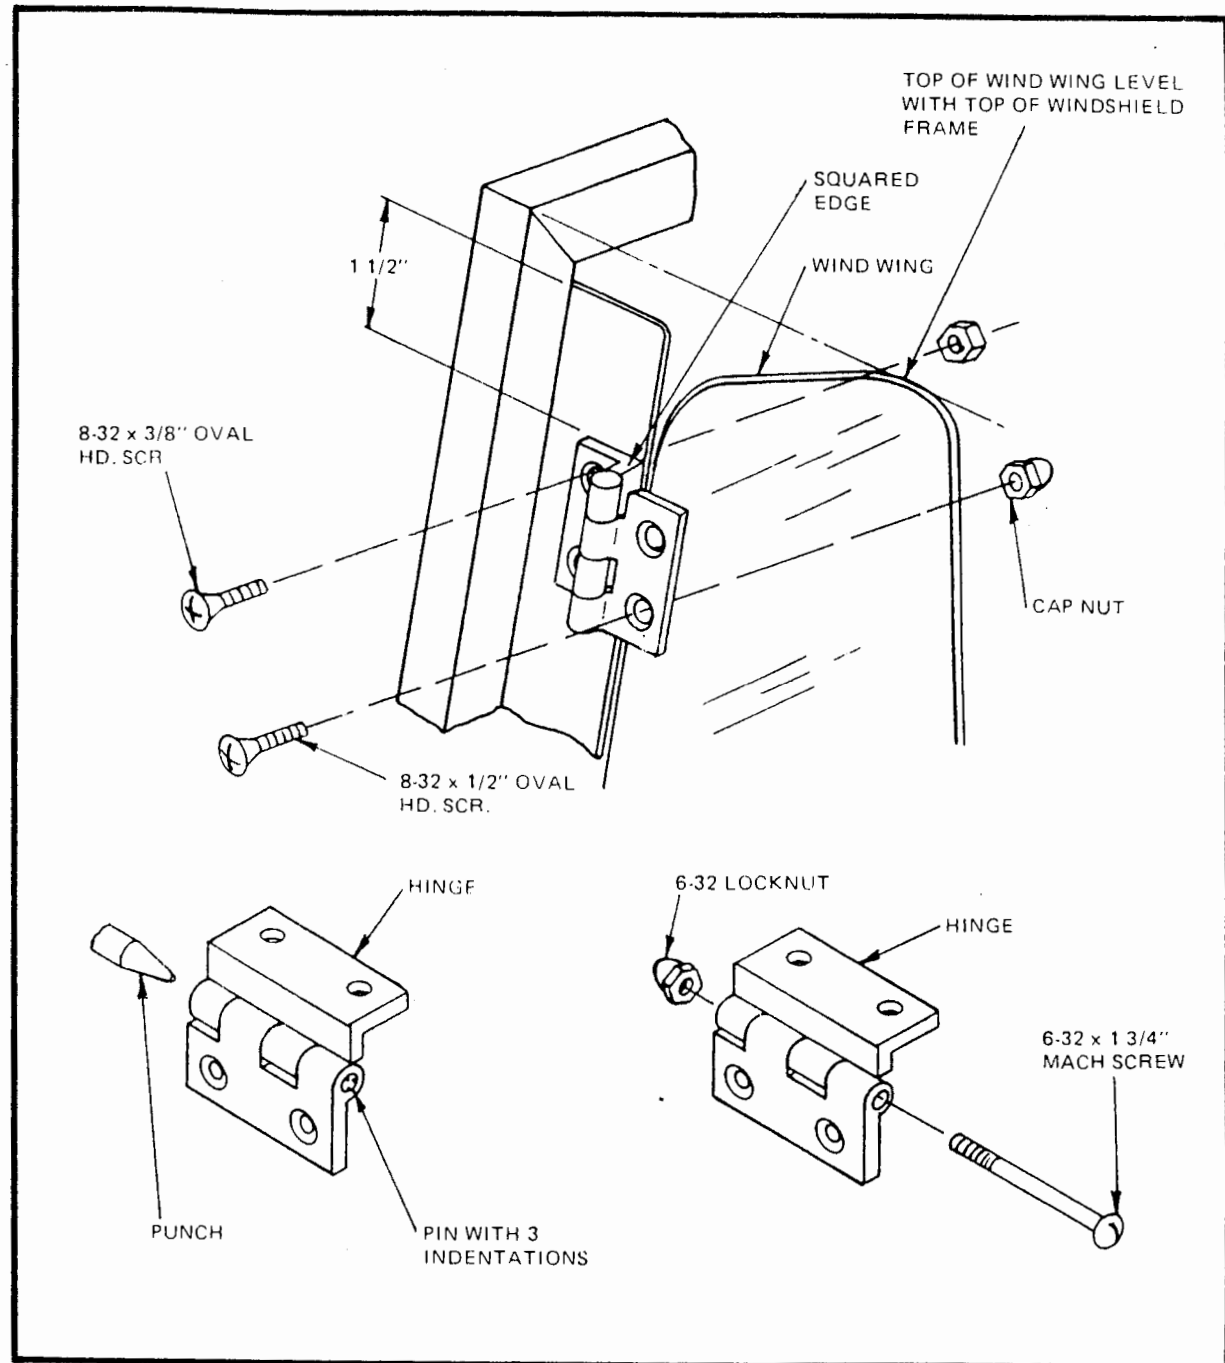

Figure 17
- The wind wings mount to the flange on the side of the windshield. Refer to Figure 17. It may be necessary to modify the hinges so there is sufficient tension to prevent wind wing from flapping.
- Using a punch, drive out the pin holding the hinge together. (One end of the pin will have 3 indentations in it. Drive the pin out by punching from the opposite smooth side.) Refer to Figure 17